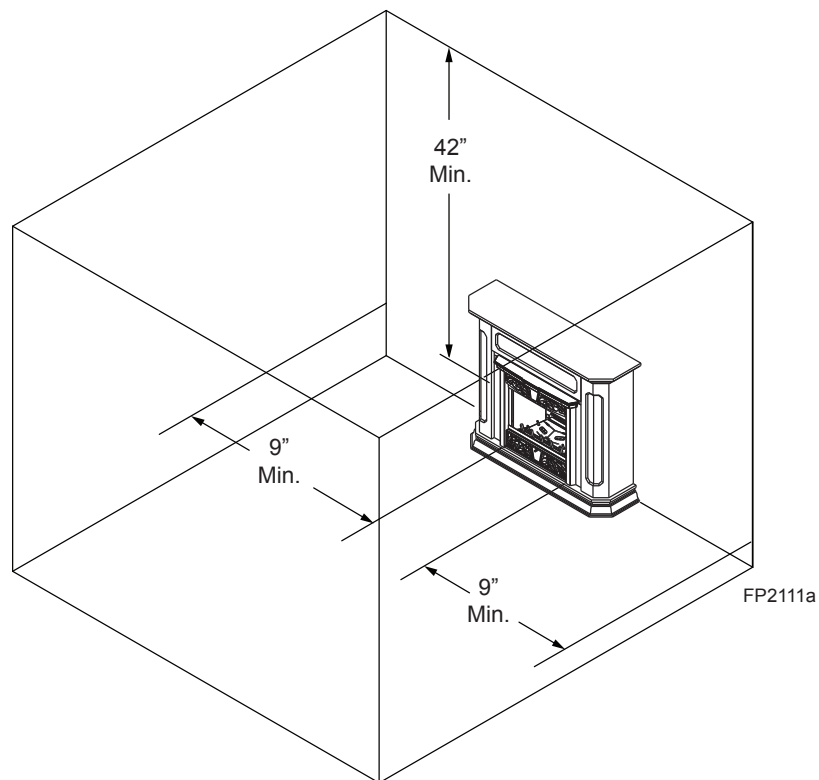

Figure 4 - Clearances and Height Requirements
Ensure that minimum clearances shown in *Figure 4* are maintained. Left and right clearances are determined when facing the front of the firebox.
1. **Sidewall Clearances** — The clearance from the inside of the appliance to any combustible adjacent wall should not be less than 9". *Figure 4*
2. **Ceiling Clearance** — The ceiling must be at least 42" from the top of the firebox opening. *Figure 4*
The dimensions shown in *Figure 4* are minimum clearances to maintain in installing this heater. Left and right clearances are determined when facing the front of the heater.